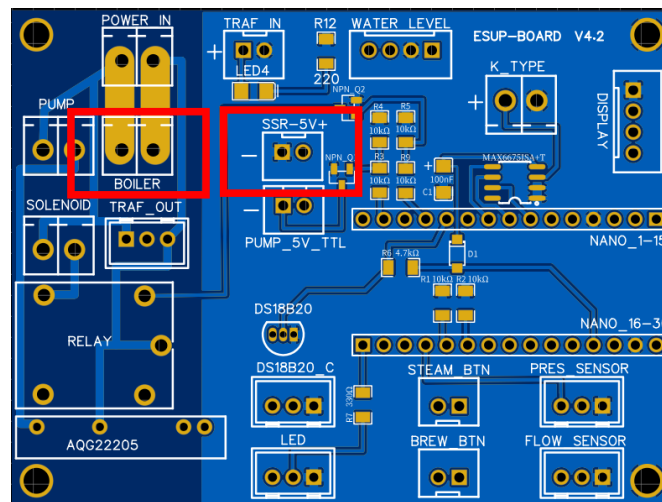

Fig. 7.4
- Connect the cables to the main board (fig. 7.4).